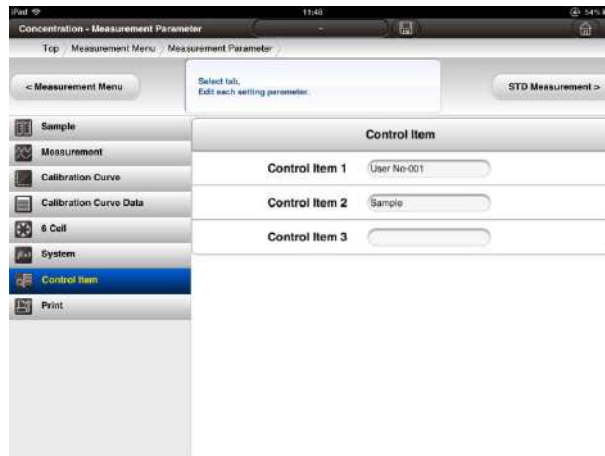

Fig. 4-10 Control Item Window
- (1) Press  [control item tab] to set control items.
- (2) The control item window window (Fig. 4-10) will then be shown.